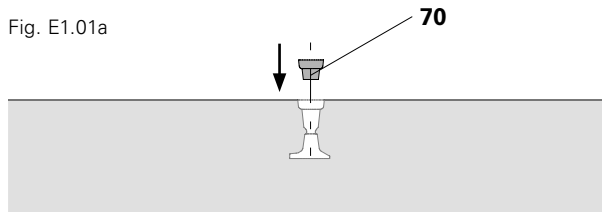

Fig. E1.01b
2. Remaining holes can be sealed by gluing in KK Concrete Cones M24-67/52 (70). (Fig. E1.01b + E1.01c)